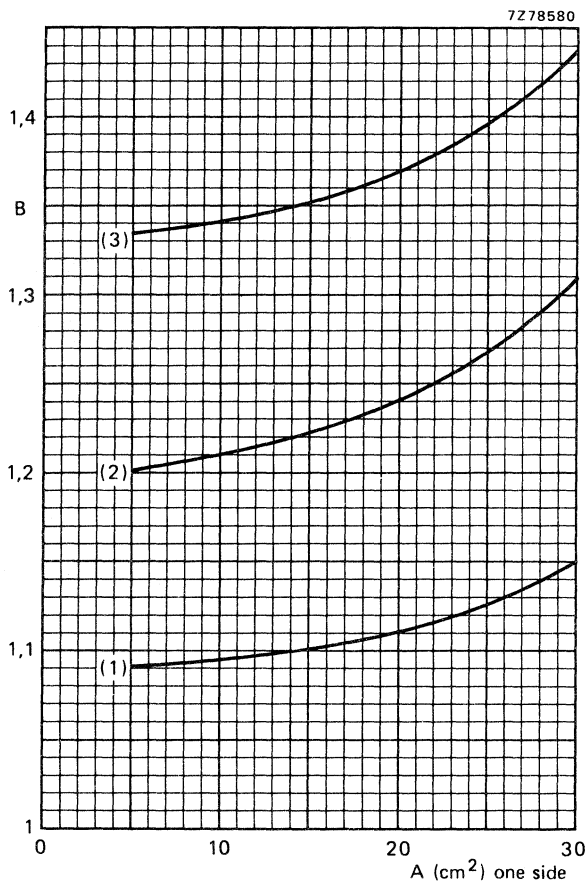
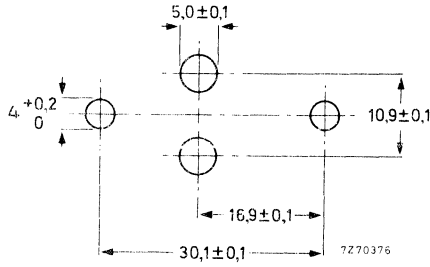

Fig. 1 Multiplication factor (B) as a function of heatsink area (A).
Fig. 3 Hole pattern for direct mounting with nuts.
- Multiply by the factor given in Fig. 1 as a function of the heatsink size  $A$ .
The transistors should be mounted with M4 screws, see Figs 1 and 2. Minimum heatsink thickness (for good heat transfer) 1,5 mm. Hole pattern: Fig. 3.
Figs 1 and 2. Direct mounting with nuts.